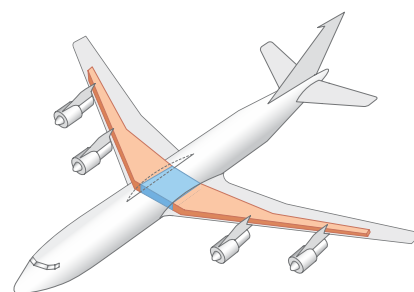

Figure 24.2 Layout of a modern airliner's main fuel tanks; specific energy of Jet-A1 fuel is 43.15 MJ kg^{-1} ; energy density is 34.7 MJ dm^{-3}
- Enthalpy of combustion, the amount of heat released when one mole of the fuel undergoes complete combustion. In real-life applications it is more useful to consider the energy that can be provided by the combustion of a certain volume or mass of the fuel, as this will influence the ease of transporting the fuel (Figure 24.2).